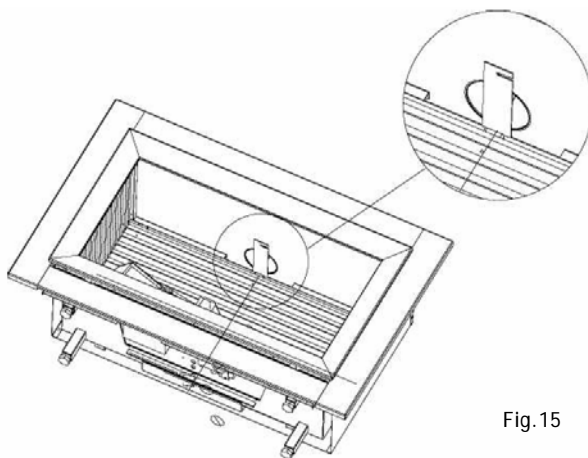

Fig.15
- 2) Remove the outer frame by removing screws B (See fig. 15) and taking away the frame.